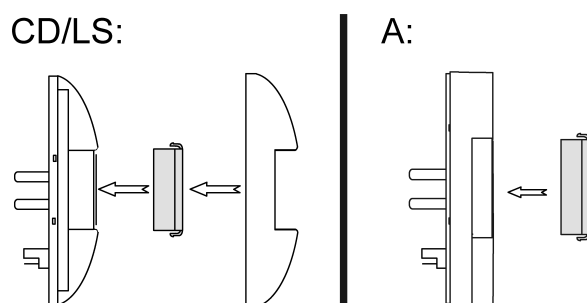

Figure 12: Panel mounting, series CD/LS and A
- Mount the cover for the left or right side of the device (Figure 12).
- Mount the cover from the front on the left or right side of the device (Figure 12).